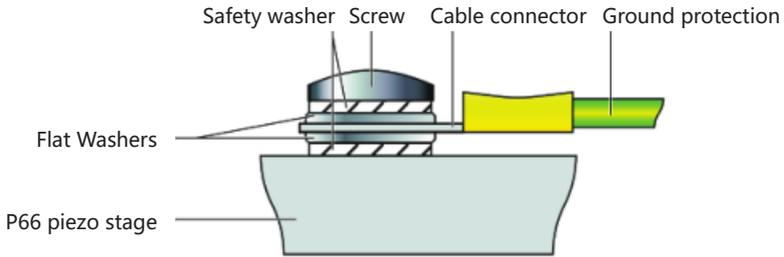

Figure2 Ground protection diagram
3. Connection grounding protection, as shown in figure 2;